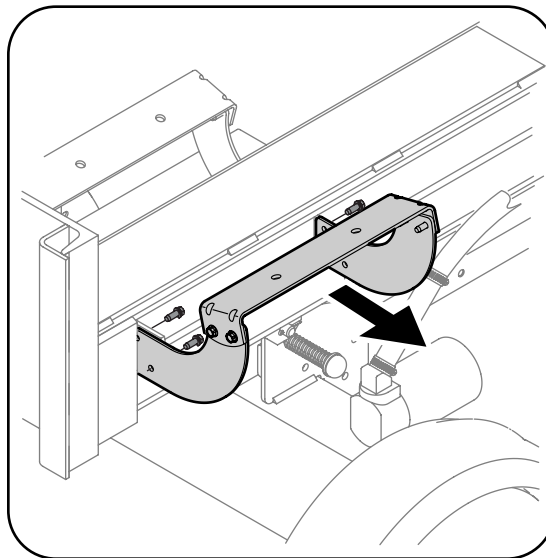

Figure 3-5
3. Disconnect the log cradle from the beam on the side of the control valve. See Figure 3-5.